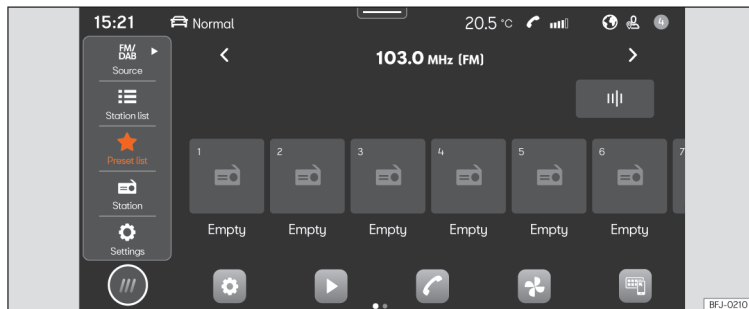

Fig. 188 Schematic diagram: Radio view.
- Press **HOME** > >>> **Fig. 188**.